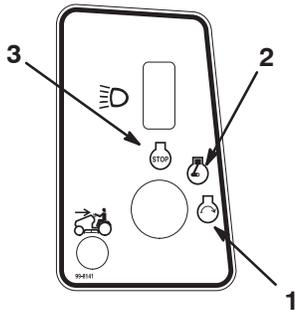

Figure 9
- Turn the ignition key clockwise and hold it in the Start position (Fig. 9). When the engine starts, release the key.
- Turn the ignition key to Off and remove the ignition key (Fig. 9).